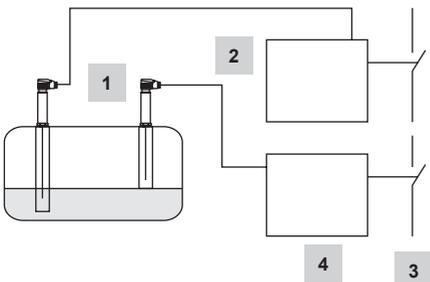

Fig. 10
- Fig. 10** Combination consisting of 2 level probes LP40 and 2 level switches LCS3050 as water level limiter. The level switch opens two separate safety circuits. Functional safety IEC 61508, SIL 3. Further applications in accordance with national sets of regulations